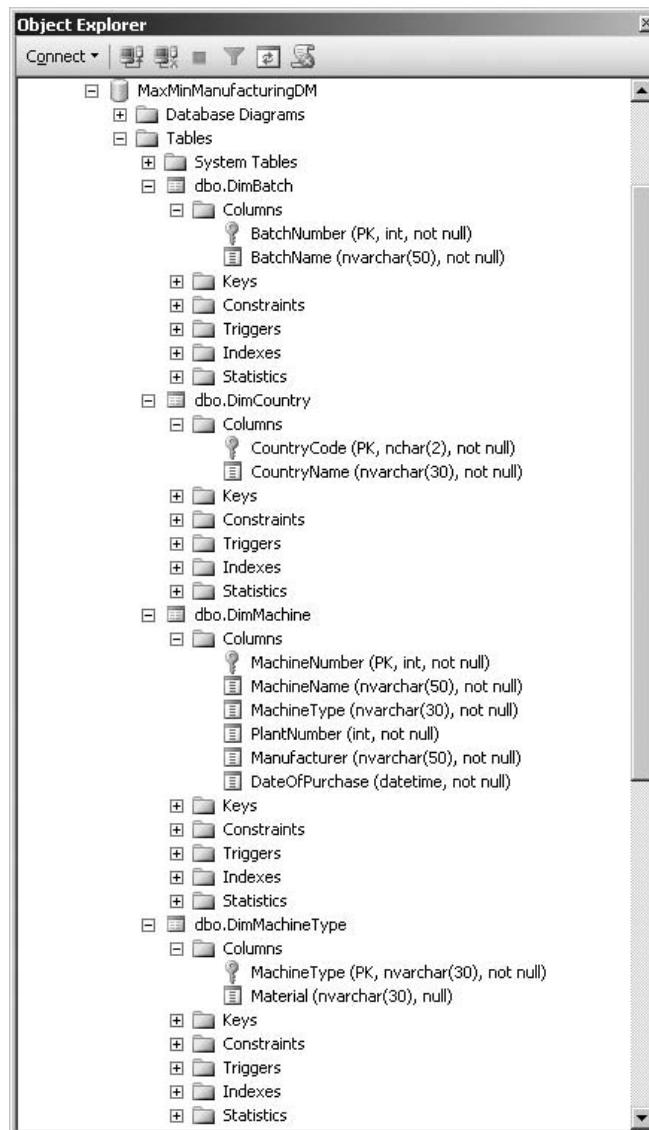

Figure 6-22 The tables in the MaxMinManufacturingDM with columns (Part 1)
19. Right-click the MaxMinManufacturingDM database entry in the Object Explorer window and select Refresh from the context menu. When you expand the node for columns under each table, the entries should appear just as in Figure 6-22 and Figure 6-23.
If you notice any mistakes as you compare Figure 6-22 and Figure 6-23 with your tables, right-click the table that is in error and select Design from the context menu. Make the necessary changes to the table structure to correct the error. Be sure to click the Save toolbar button when you are done. You need to refresh the contents of the Object Explorer window after your changes before again comparing to Figure 6-22 and Figure 6-23. You may need to enable table changes in the SQL Server Management Studio. If you receive an error, select Tools | Options from the main menu. In the Options dialog box, select the Designers | Table and Database Designers page. Uncheck the Prevent saving changes that require table re-creation check box and click OK.